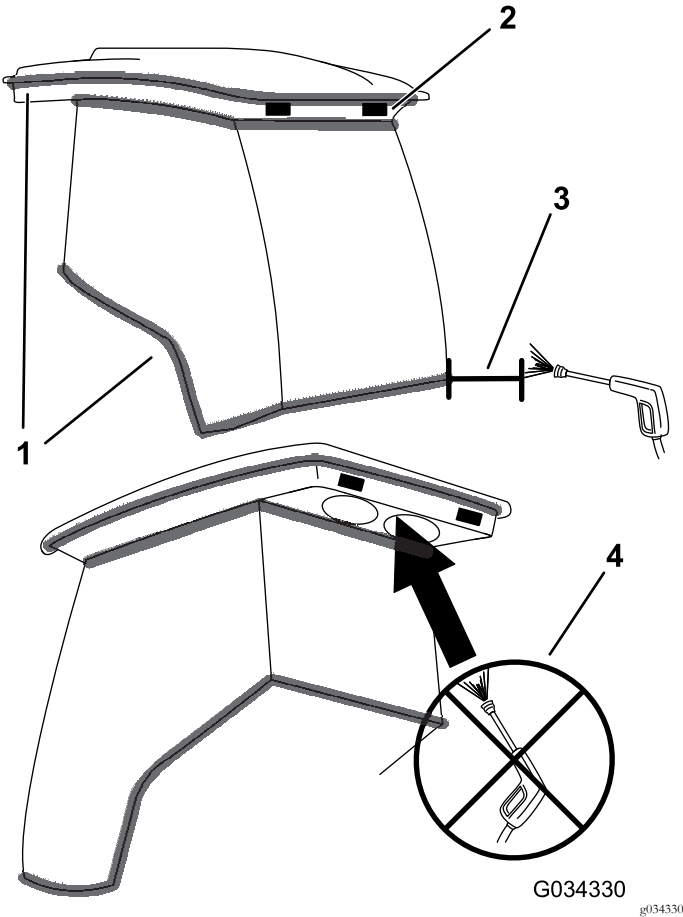

Figure 58
**Important:** Use care around the cab seals and lights (Figure 58). If you are using a pressure washer, keep the washer wand at least 0.6 m (2 ft) away from the machine. Do not use the pressure washer directly on the cab seals and lights or under the rear overhang.